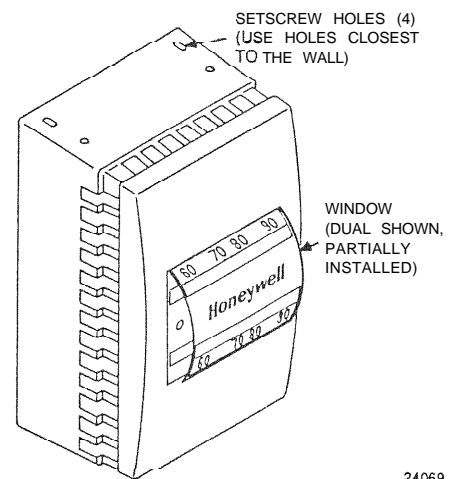

Fig. 10. Assembly of Cover with Window and Insert.
3. Insert top edge of window into the slot in the top of the window hole (Fig. 10). Bend the window slightly and pop the bottom edge into the slot in the bottom of the window hole. Press in place to secure window. Be careful that the window is oriented correctly for the installation. When viewed from the front of the cover, the setpoint and day/auto openings are on the bottom for a vertical thermostat or on the right for a horizontal thermostat. The cover has slots which must mate with the mounting ears on the backplate.